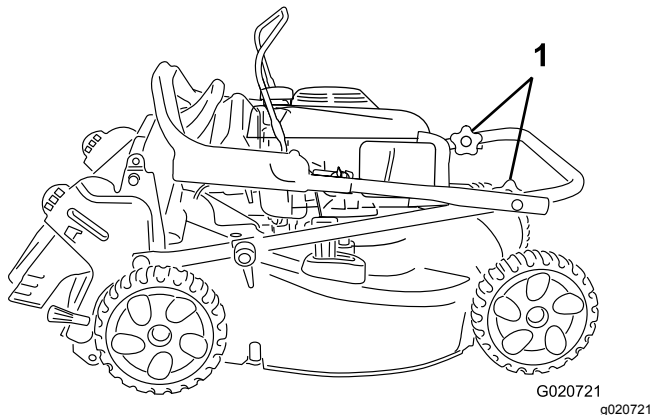

Figure 20
3. Rotate the upper portion of the handle back toward the engine; refer to Figure 20.